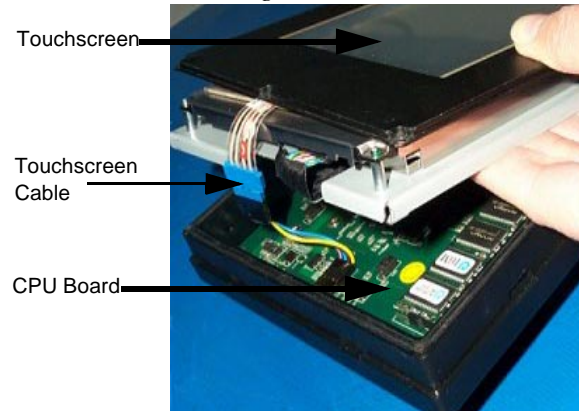

Figure 2 Touchscreen Cable
10. Carefully, lift the touchscreen and the display assembly approximately one to two inches to locate the touchscreen ribbon cable as shown in *Figure 2*.